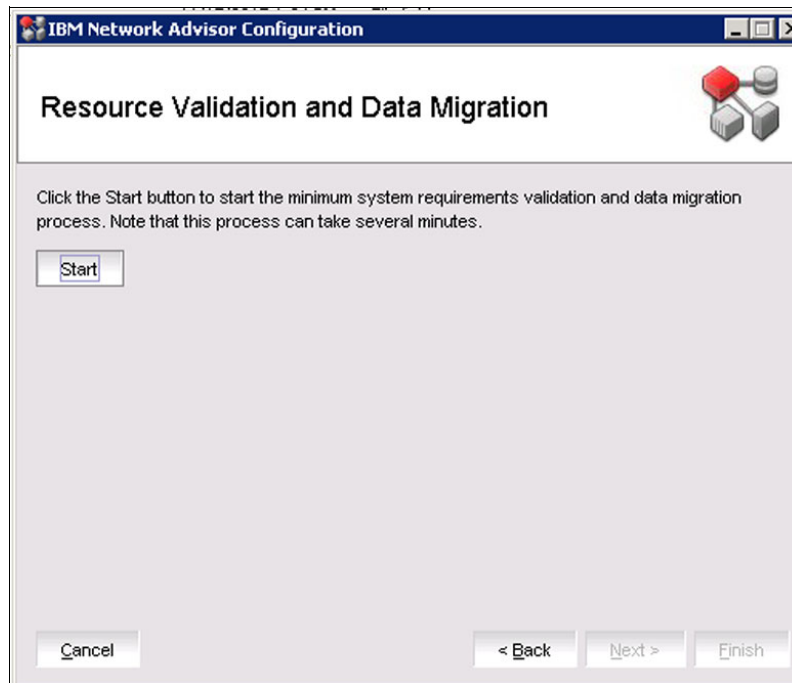

Figure 4-28 Resource Validation and Data Migration window
8. The Resource Validation and Data Migration window opens, as shown in Figure 4-28. In this stage, the IBM Network Advisor installation validates all of the server resources that are required for the product installation and starts the data migration process.